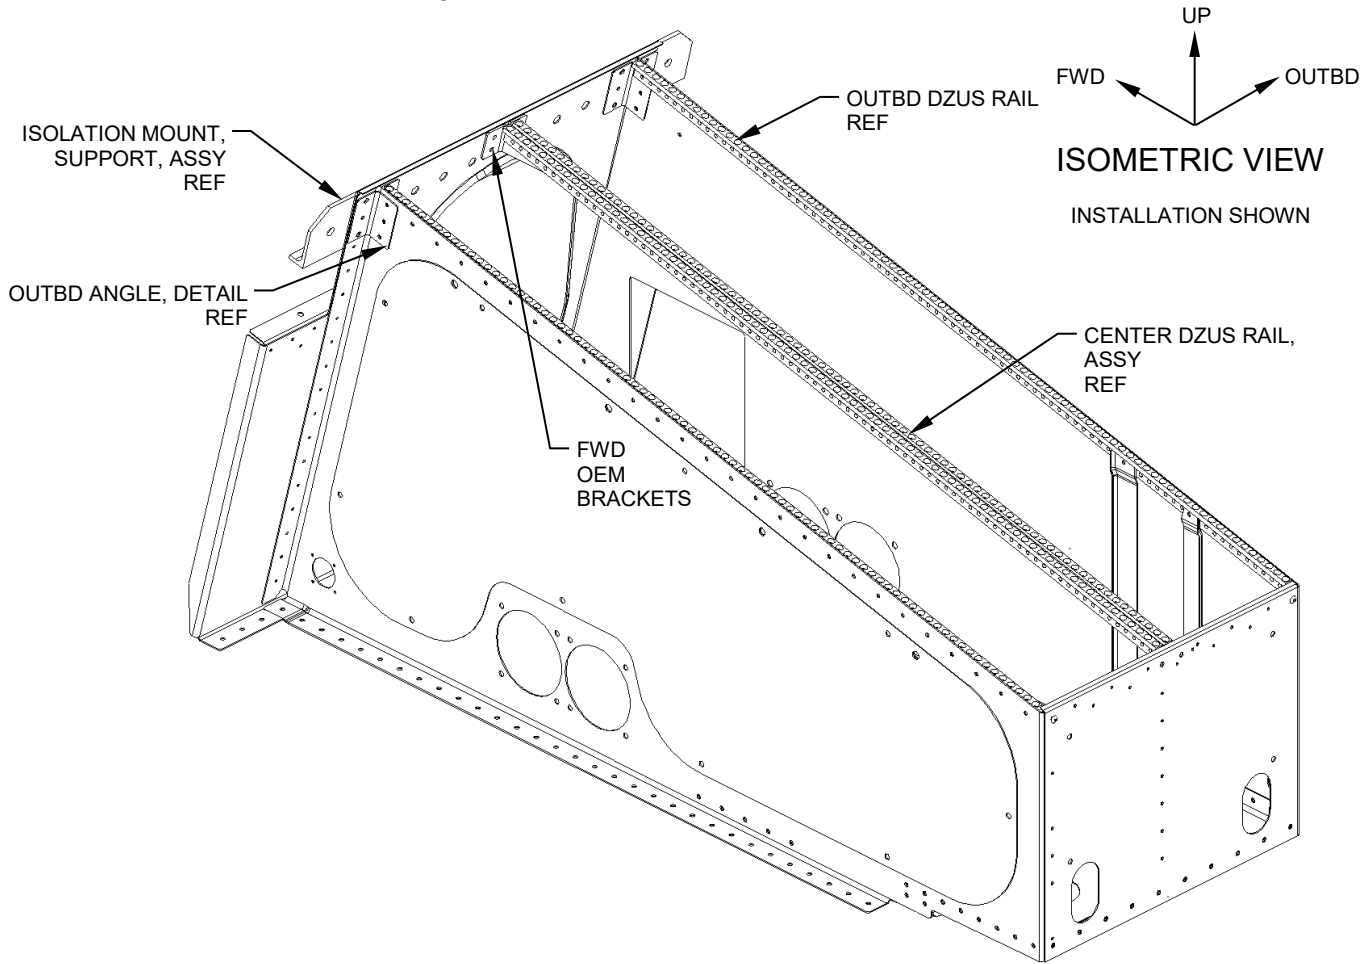

Figure 1
1.1. Gain access to the OEM pedestal. Remove and retain applicable avionics, switch control panels, and the defrost control lever. Remove and discard all avionics that will be replaced. See Figure 1.
1.2. Remove and discard the LHS outboard Dzus rail. Remove and retain the RHS Dzus rail, a section is used as packing material for the OEM fittings towards the AFT end. Remove and discard the center Dzus rail assy and associated aft fittings. See Figures 1 & 2.
1.3. Temporarily install the Filler, Detail, (Item 41), with a cleco. Use the aft side of the filler part to scribe a line on the fwd OEM brackets. Trim the excess material, and remove and retain the Filler, Detail, (Item 41). See Figures 1 & 2.